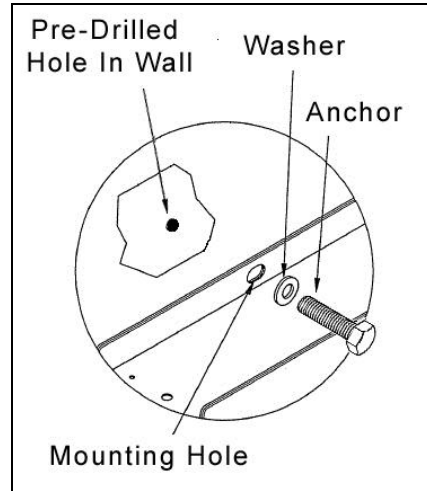

Figure 5: Wall Mounting
2. Secure the display to the wall by attaching mounting hardware through all holes on the top and bottom rear flanges of the display to a pre-drilled hole in the wall (**Figure 5**).